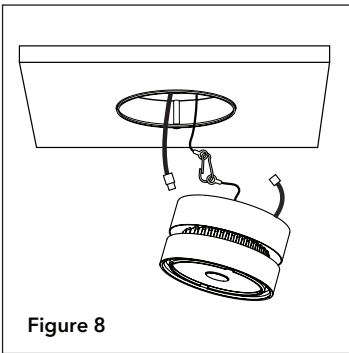

Figure 8
8. Attach safety harness from mud ring to luminaire with carabiner clip (Fig. 8).